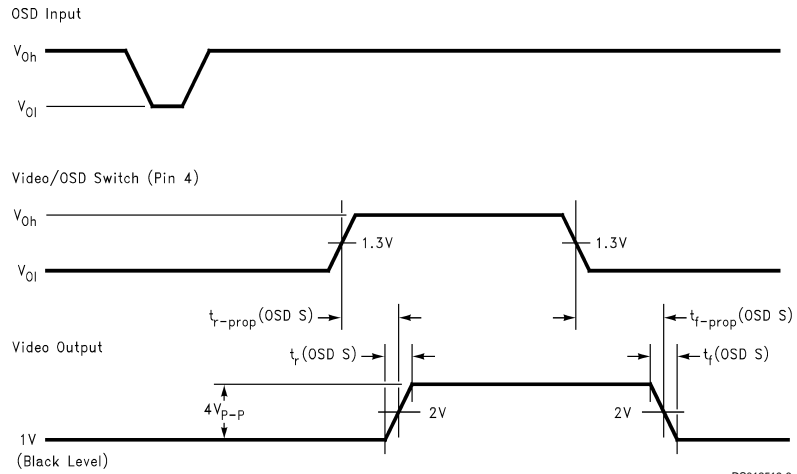

FIGURE 3.
See AC Test Circuit (Figure 3),  $T_A = 25^\circ\text{C}$ ,  $V_{CC1} = V_{CC2} = 12\text{V}$ ;  $V_4 = 0\text{V}$ . Manually adjust Video Output pins 18, 20, and 23 to 4V DC for the AC test unless otherwise stated
**Note 16:** When  $V_1 = V_2 = V_3 = 0\text{V}$  and the video input is 0.7V, then  $t_r$  (OSD) = 11 ns and  $t_f$  (OSD) = 4 ns. The Video Output waveform will be inverted from the one shown in Figure 3. Thus  $t_r$  (OSD) is actually a fall time and  $t_f$  (OSD) is actually a rise time in this condition.